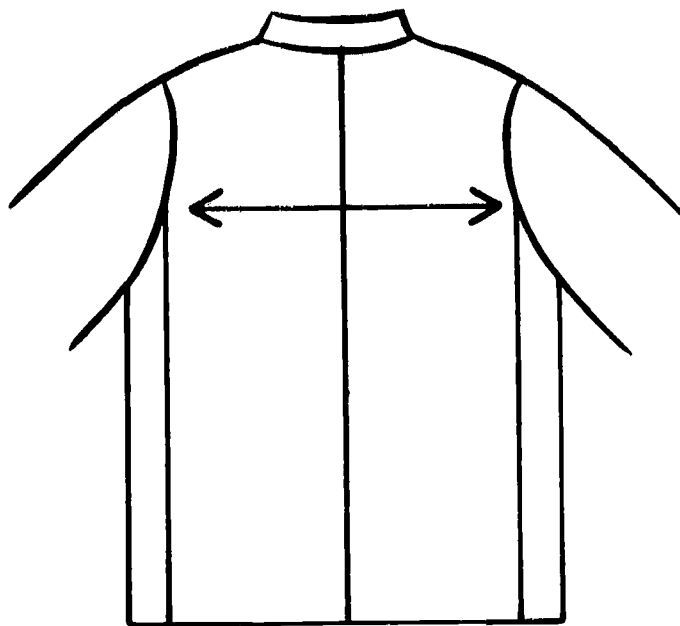
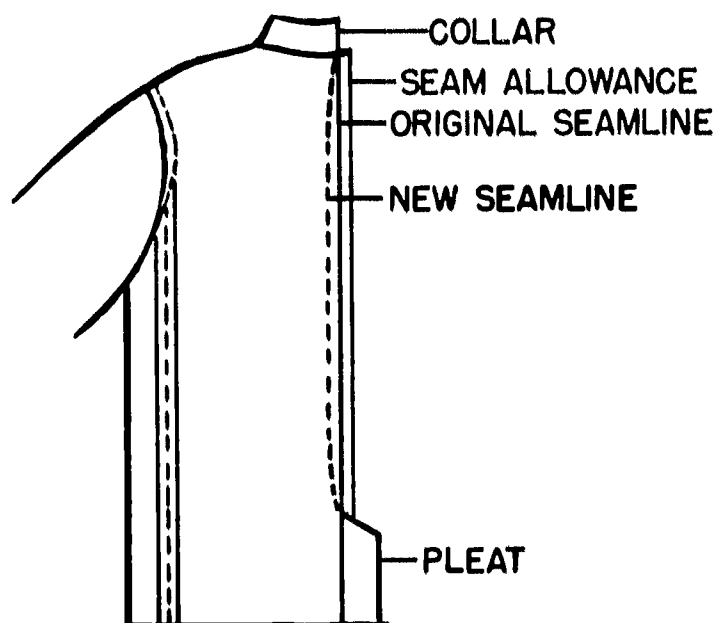

Figure 53.
Figure 54.
6. The major part of the fullness to be taken out of the center back seam will be in the approximate area of the shoulder blade (see Figure 53). Draw a chalk line which tapers from nothing at the collar to the amount to be taken out and then back to nothing at the pleat (see Figure 54).